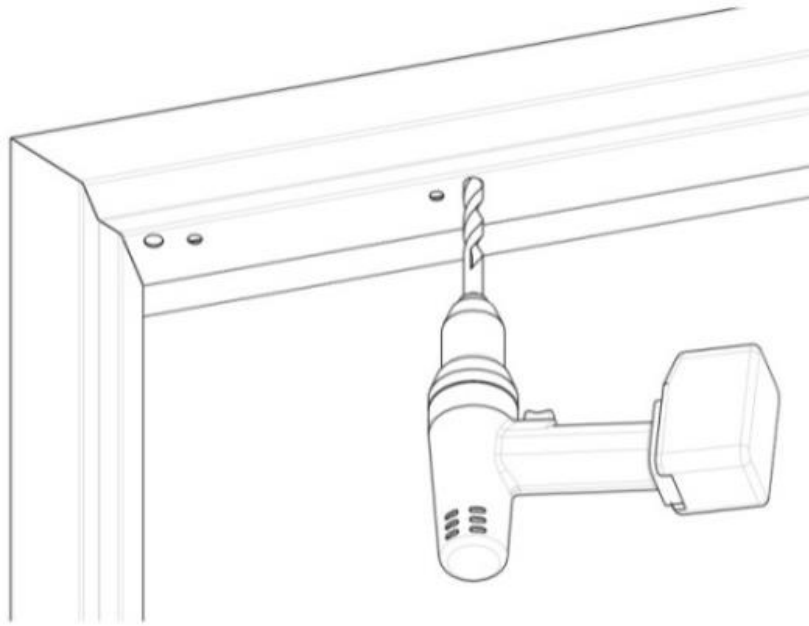

Figure 9. Drilling the Wire Access Holes
3. DRILL wire access holes (1/2" diameter recommended), as needed, on one or both sides of the bracket (see Figure 9, "Drilling the Wire Access Holes").